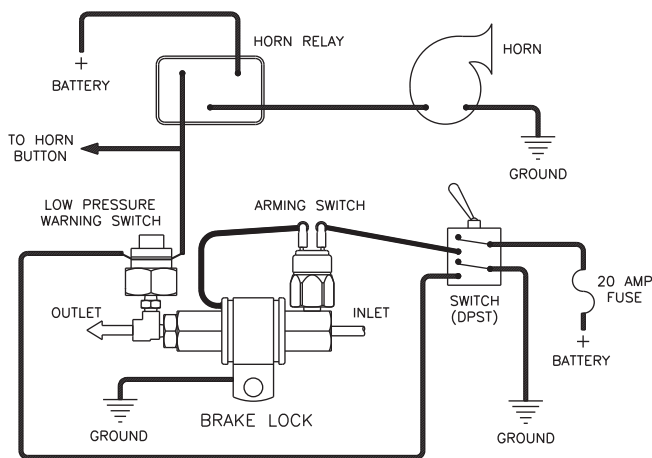

FIGURE 1
To utilize the vehicle's horn relay or an auxiliary relay make connection as shown. (See Figure 1)
1. Connect terminal on brake lock arming switch to dashboard toggle switch. Then connect the corresponding terminal from toggle switch to any 20 amp fused HOT terminal behind the dash (as shown in figure 1).